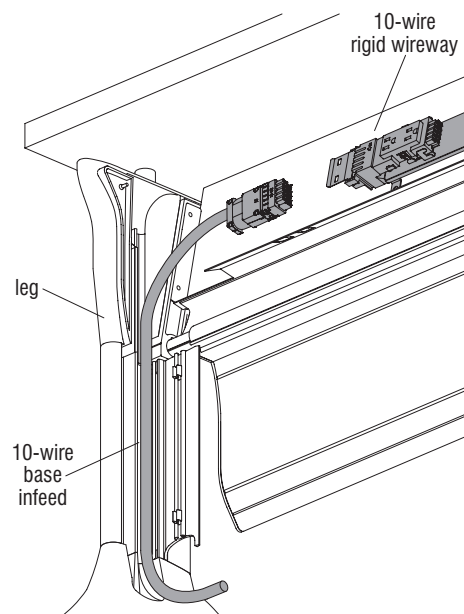

Figure 4
3. Lay the 10-wire base infeed into the channel in the leg and snap the end of the infeed into the factory installed 10-wire rigid wireway (Figure 4). Be sure the steel clip engages with the infeed for a secure fit.